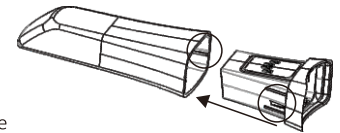

Figure 2
1.Before starting scanning, please kindly put on the scanner tip correctly, Please parallelly insert or remove the scanner tip based on Figure 2, without tilting;